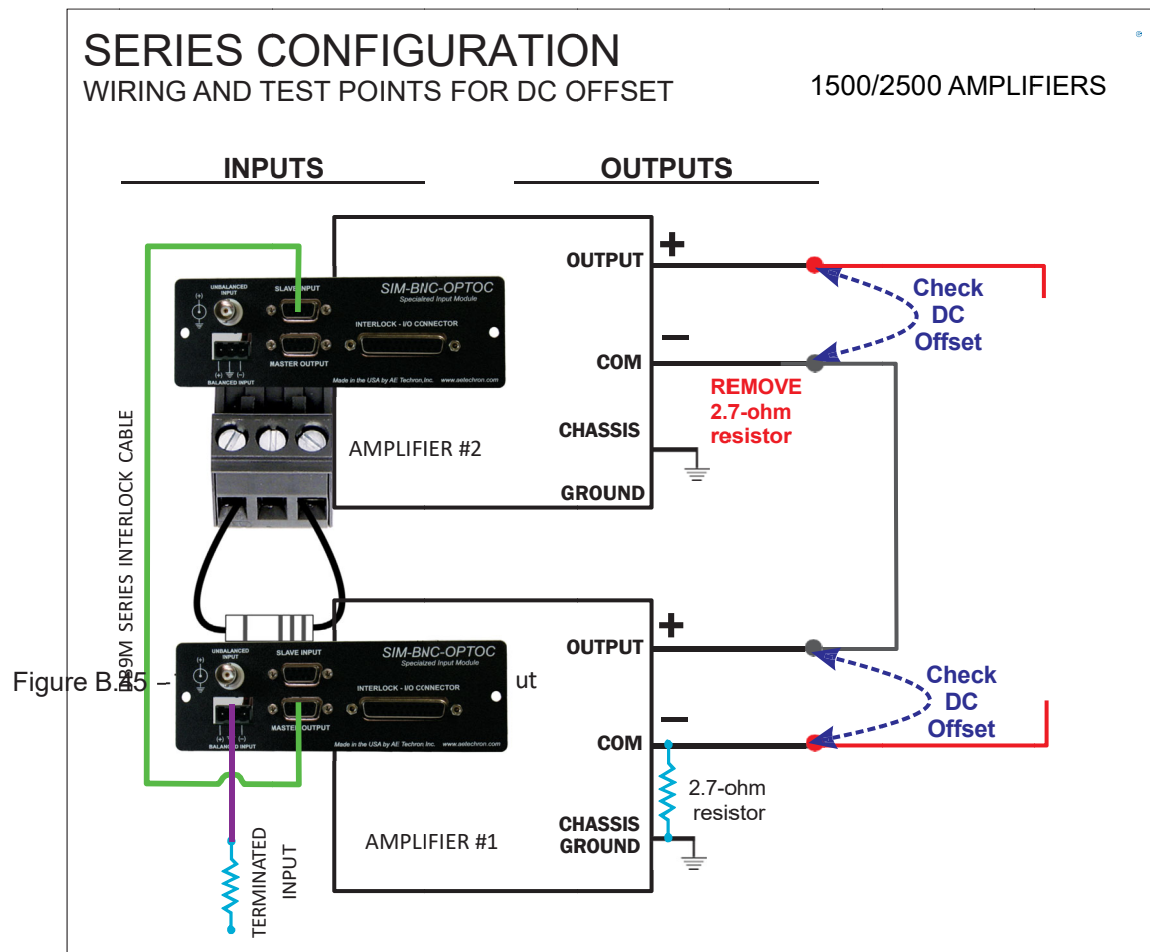

Figure B.2.40 – Wiring and Test Points for DC Offset
- F. Using a digital voltmeter set to DC, measure across each amplifier's back-panel output connector terminals (OUTPUT to COM) to verify that the DC offset of each amplifier is less than 10 mVdc. See **Figure B.2.40**. **NOTE:** If any amplifier's DC offset is greater than 10 mVdc, the amplifier may require servicing. Contact **Venable Technical Support**.